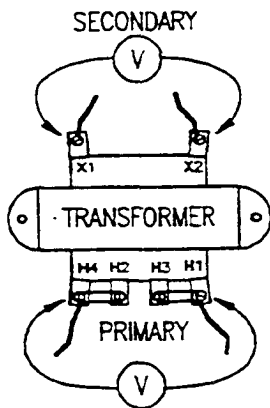

Figure 5-21. Transformer
3. Refer to Figure 5-21, and check for 120 VAC across transformer primary terminals X1-X2.
6. Refer to Figure 5-21, and check for 240 VAC across the transformer secondary terminals H1-H4.